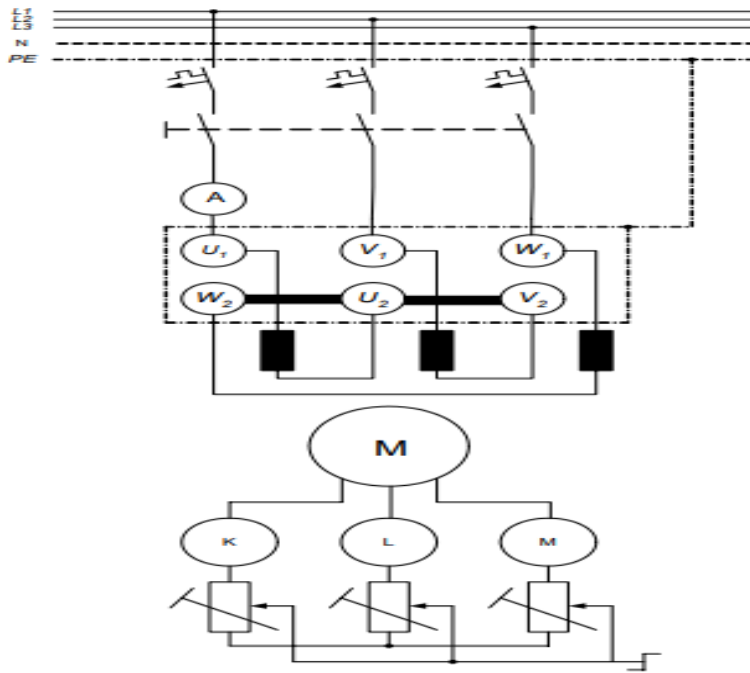

FIG 1
1. Construct the circuit as shown in the fig.1
1. For rotor resistance starting, connect the slip-ring motor as shown in FIG.1. Start the motor with full starting resistance and then decrease the resistance in steps down to zero. Take observations of the stator & rotor currents